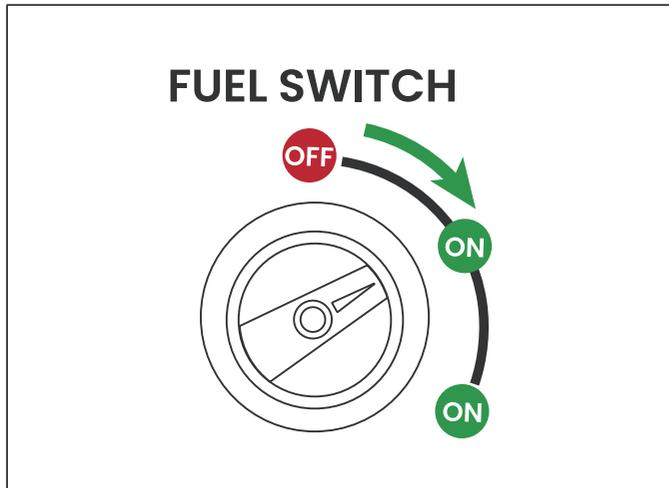

Fig.12
- 2 Turn the fuel switch to the "ON" position (see **Fig.12**).